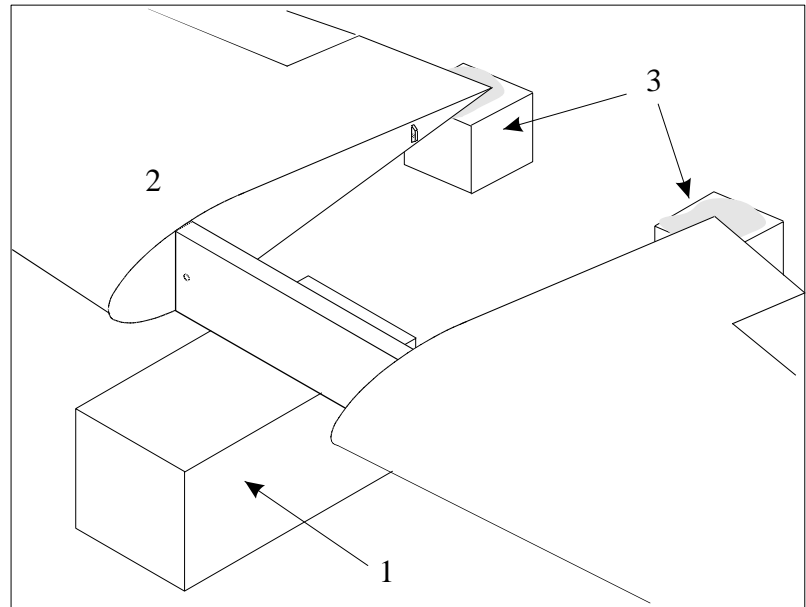
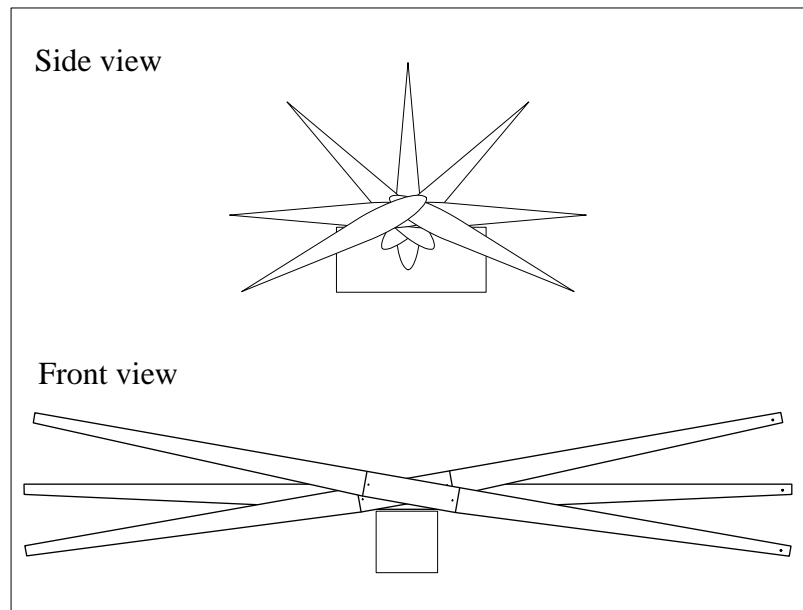

Figure 4 Wing Supports
Figure 5 Wing Positions
- 3 Place the wing (2, Figure 4) on an appropriate support (1) allowing rotations as shown in Figure 5.